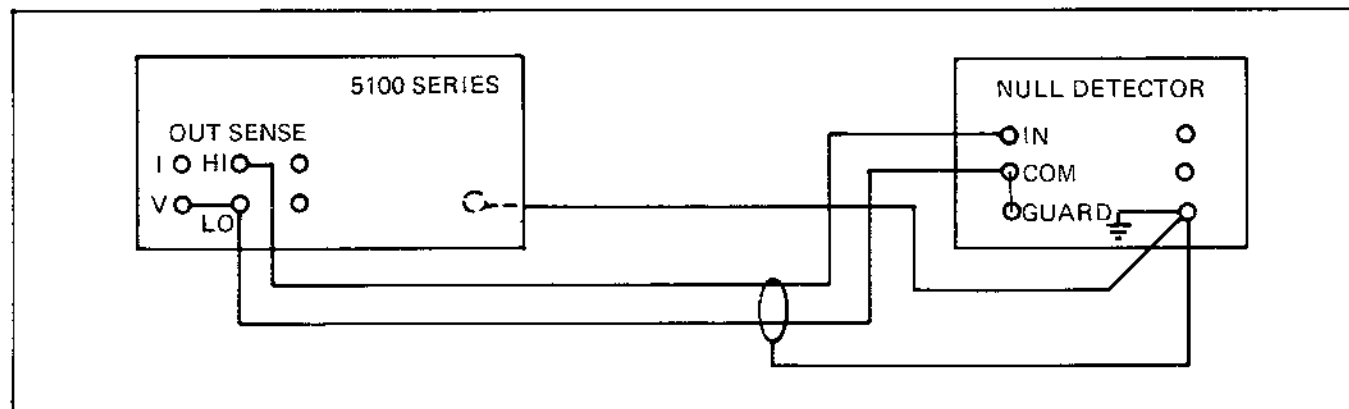

Figure 4-3. Offset Voltage Checks
3. Prepare the test null detector to read a null $\pm 5 \mu\text{V}$, then connect the equipment as shown in Figure 4-3.